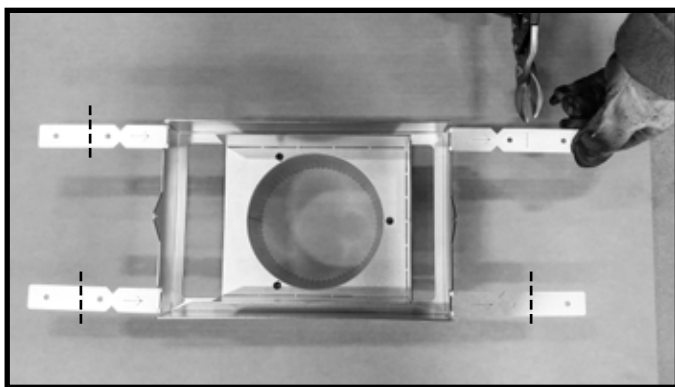

Figure 8.9 Cutting the Nailing Tabs
6. Bend or cut the nailing tabs at this location to break off excess nailing tab material not needed for Open Top Discharge. See Figure 8.9.